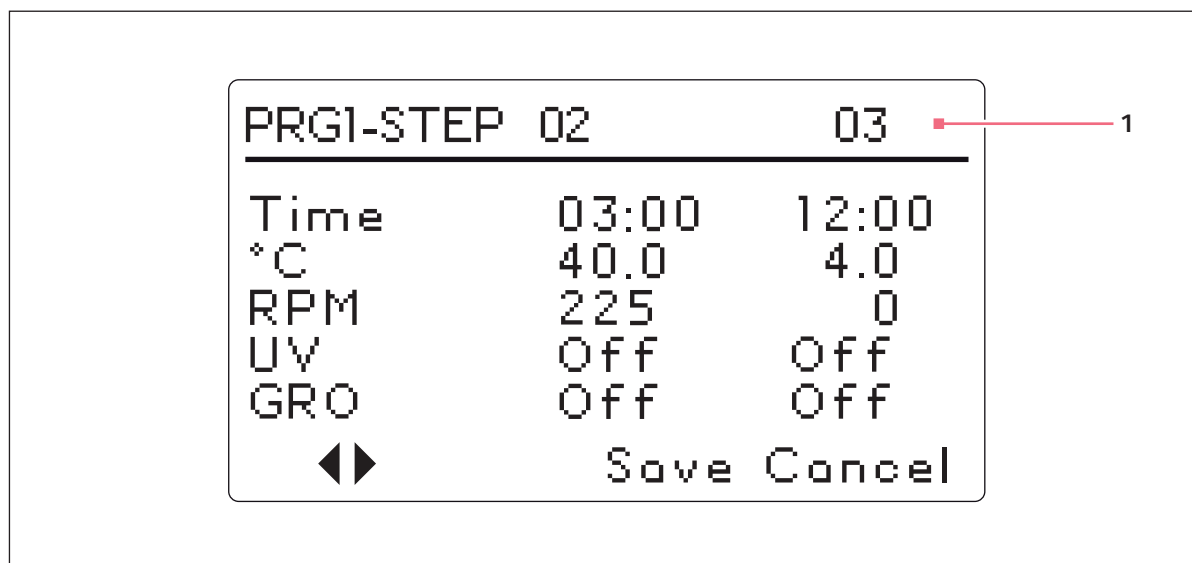

Fig. 5-14: Program 1, Step 3
10. Continue to program as many as 15 steps in the same manner. For our sample program, we have only three steps (see Fig. 5-14 on p. 60).